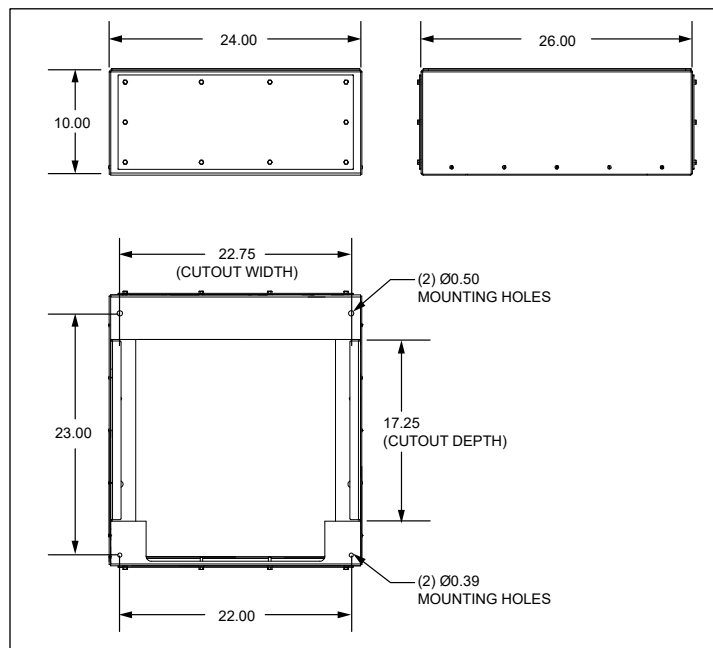

Figure 2 Dimensions (in inches)
The kit is intended for use in mounting the CUBE on a concrete or composite pad. The plinth provides a storage space for cable slack. The kit includes hardware for mounting the CUBE onto the plinth. Hardware for securing the plinth to the concrete or composite pad is customer supplied. Plinth dimensions are shown in Figure 2.
- Figure 2 shows the required conduit openings and mounting hole dimensions for entering/mounting the bottom of the CUBE. Use these dimensions when designing the pad.